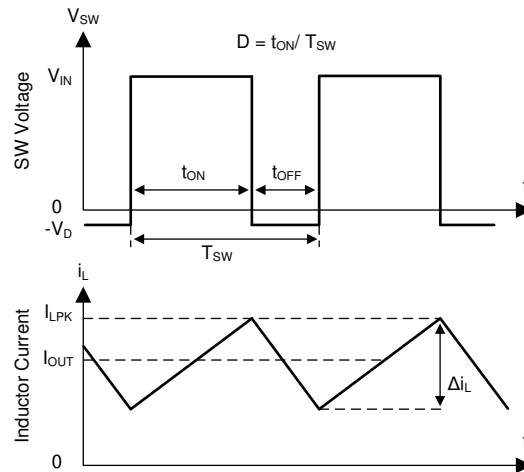

图 10. SW Node and Inductor Current Waveforms in Continuous Conduction Mode
The following operation description of the LM76002-Q1/LM76003-Q1 refers to the Functional Block Diagram and to the waveforms in Figure 10. The LM76002-Q1/LM76003-Q1 supplies a regulated output voltage by turning on the internal high side (HS) and low side (LS) NMOS switches with varying duty cycle (D). During high-side switch on-time t_{ON} , the SW pin voltage V_{SW} swings up to approximately V_{IN} , and the inductor current i_L increase with linear slope. The HS switch is off by the control logic. During the HS switch off-time, t_{OFF} , the LS switch is turned on. Inductor current discharges through the LS switch, which forces the V_{SW} to swing below ground by the voltage drop across the LS switch. The regulator loop adjusts the duty cycle to maintain a constant output voltage. The control parameter of buck converter is defined as duty cycle $D = t_{ON} / t_{SW}$. In an ideal buck converter, where losses are ignored, D is proportional to the output voltage and inversely proportional to the input voltage: $D = V_{OUT} / V_{IN}$.